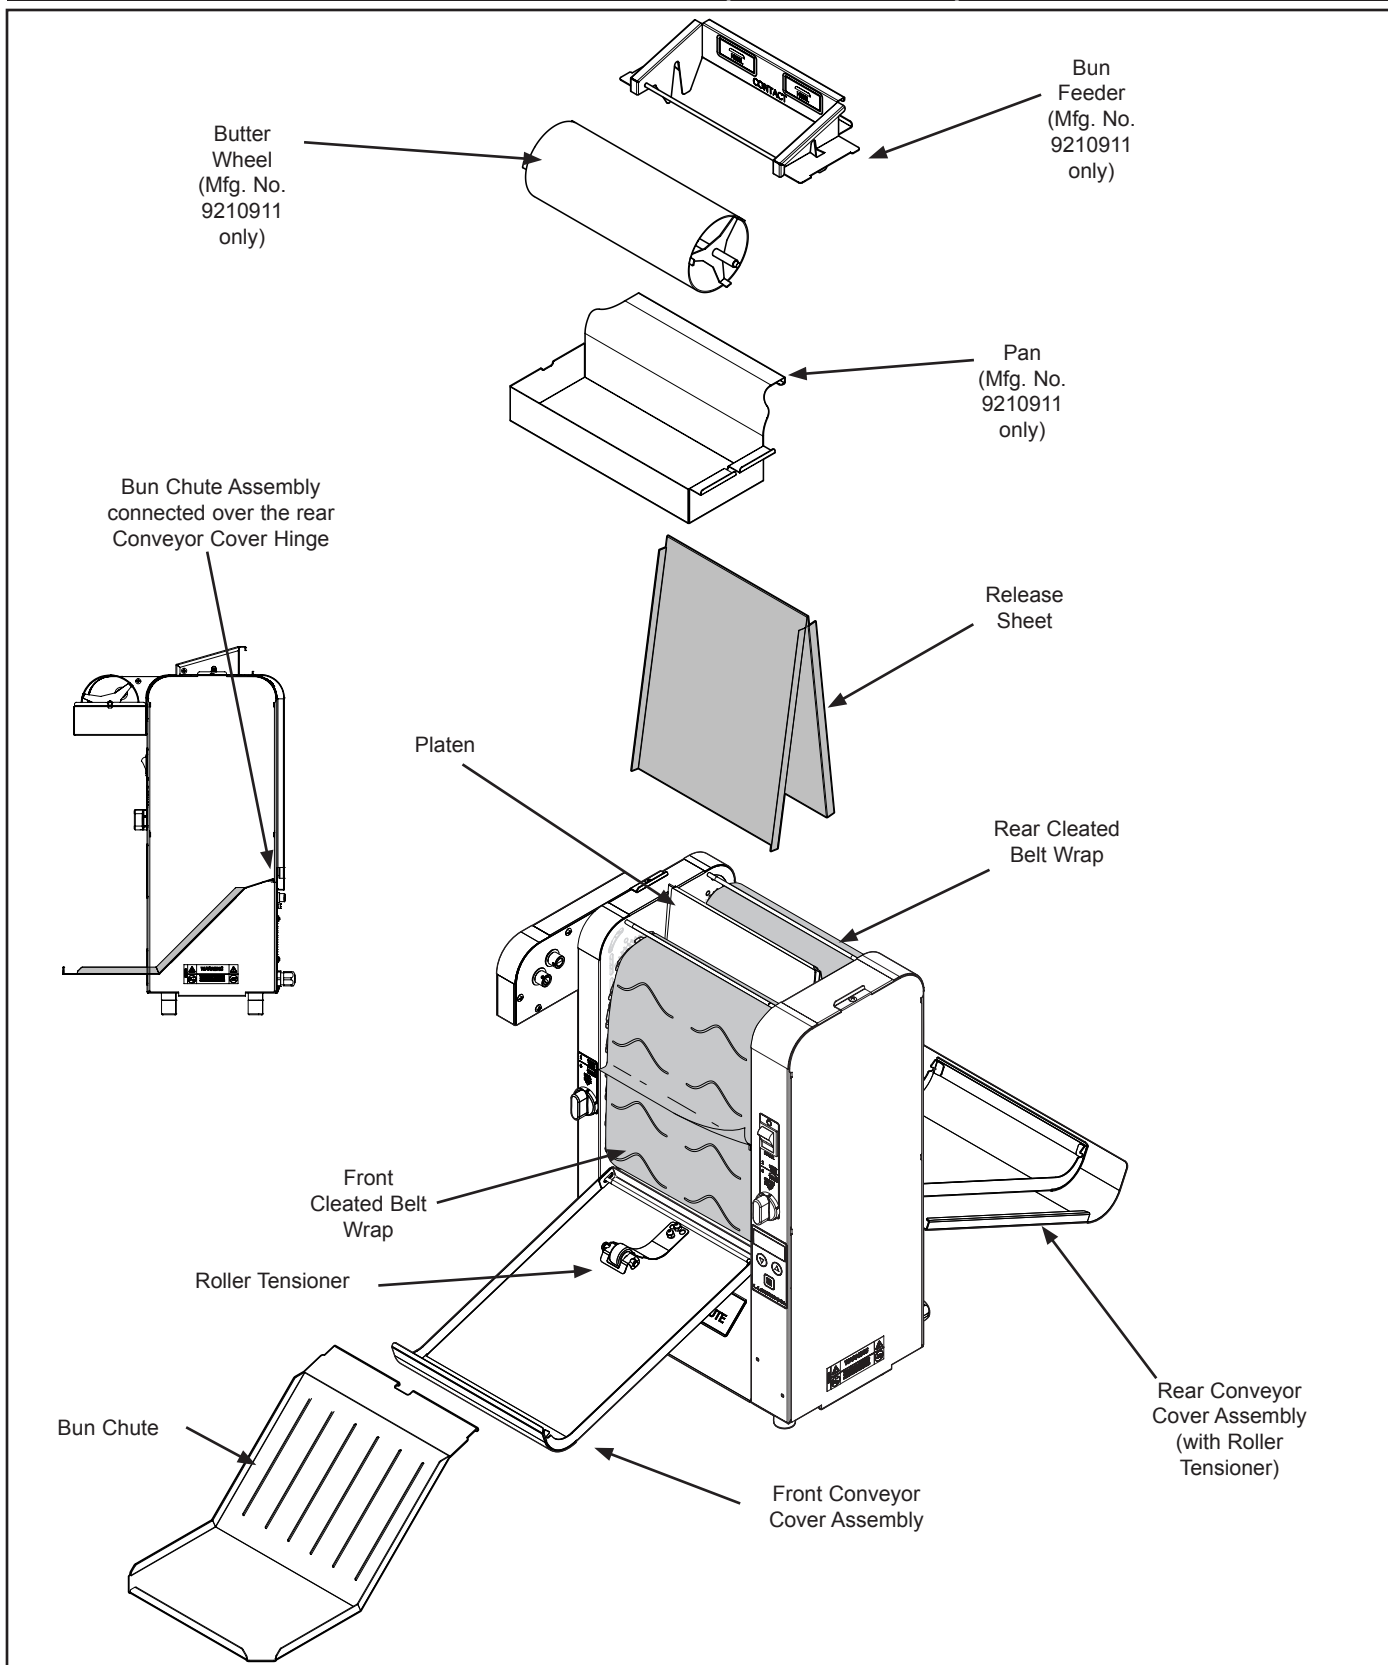

Figure 2. Components
2. Open the included large box. It should contain the following (See Figure 2):
NOTE: The factory has pre-installed a Release Sheet over the Platen (Figure 2). Verify that it is properly in place before proceeding.
2. Install the Pan over the front edge of the Heat Shield and place the Butter Roller in Pan and engage into gear case (Figure 2).
IMPORTANT: Make sure Heat Shield assembly is activating the Conveyor Interlock Switch (Figure 2). The conveyors will not rotate unless the Heat Shield is in place and Conveyor Interlock Switch is activated.
2. Remove the Bun Feeder, Butter Wheel and Pan (if present), and Bun Chute and set aside (Figure 2). Set the Bun Thickness Compression Knobs to 6 & 6.